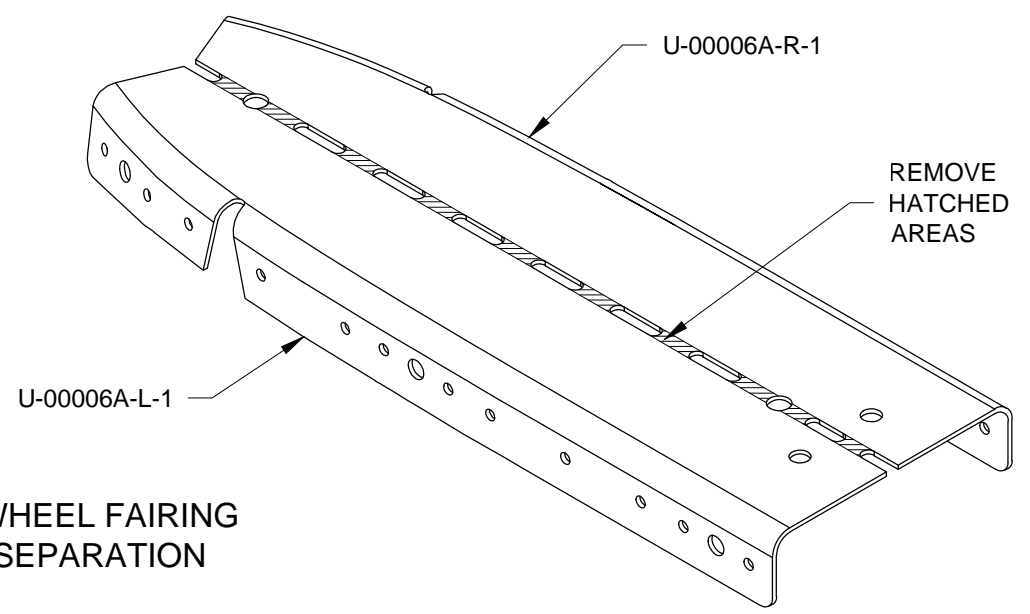

FIGURE 2: WHEEL FAIRING BRACKET SEPARATION
Step 4: Remove the hatched area from the U-00006A-1 Wheel Fairing Bracket to create the U-00006A-L-1 and U-00006A-R-1 Wheel Fairing Brackets as shown in Figure 2.